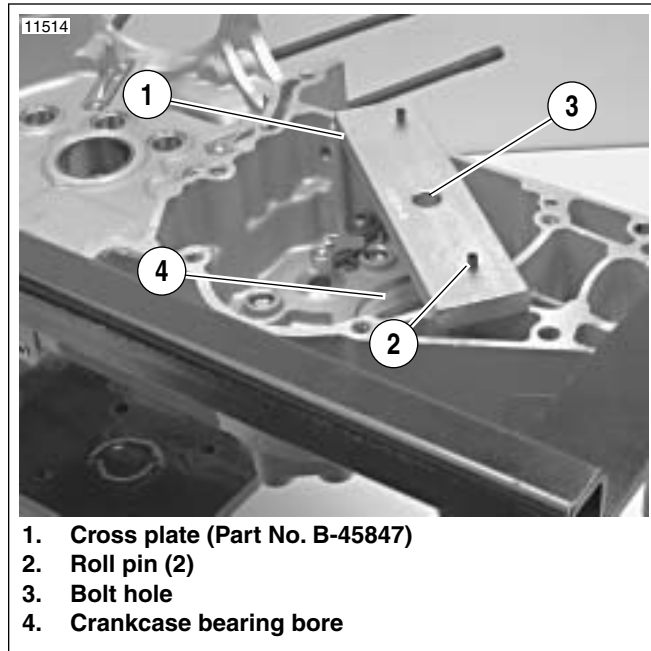

Figure 6-73. Positioning Cross Plate (Typical)
1. See Figure 6-73. Place CROSS PLATE (Part No. B-45847) (1) on right crankcase as shown. Position cross plate so that roll pins (2) fit into crankcase mating screw holes and bolt hole (3) in cross plate is centered over crankcase bearing bore (4).